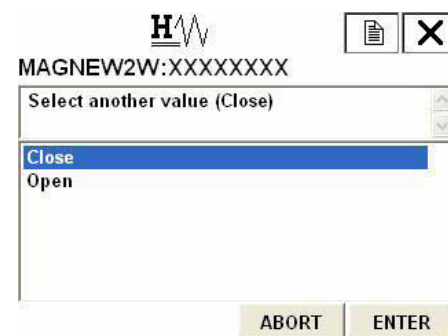

Figure 7-89
3. Figure 7-89 will appear. Move the arrow key up or down to select an OPEN or CLOSE. After making a selection, press F4 (ENTER). Selected contact will be output. Press F3 (ABORT) to return to the previous menu.